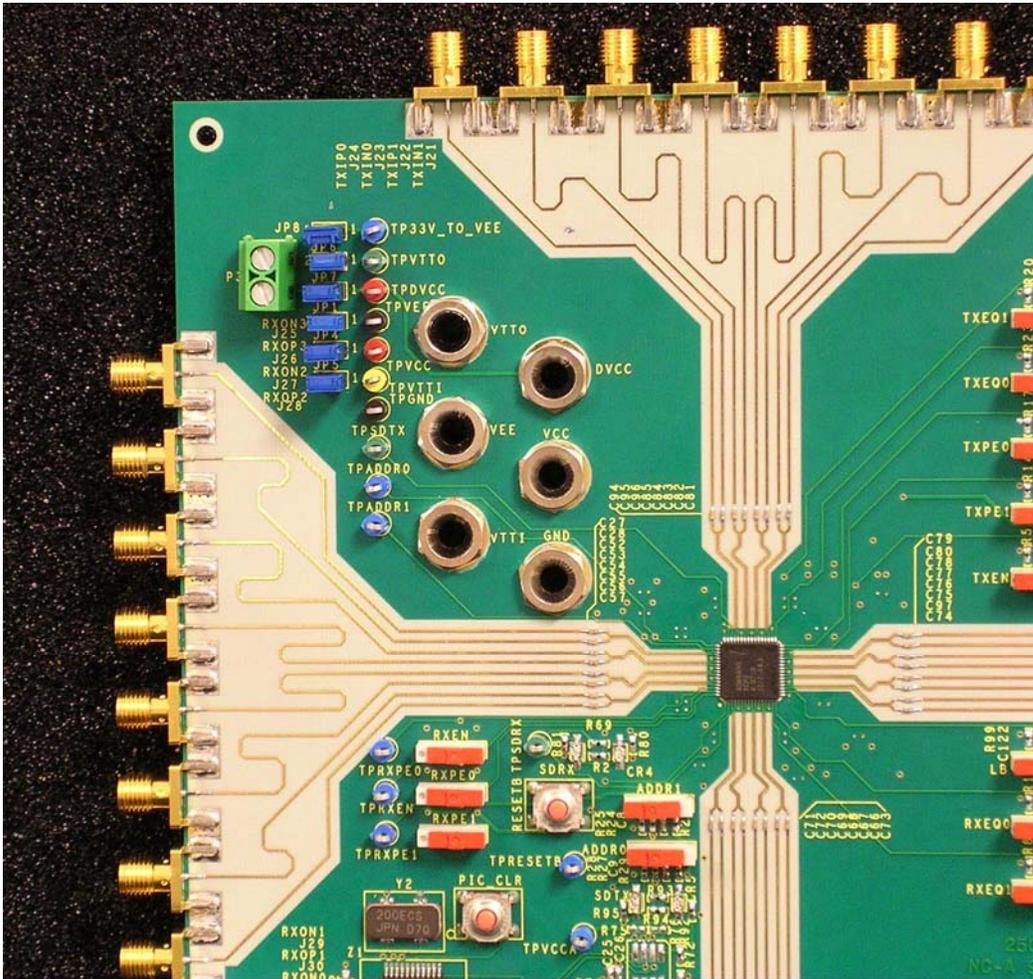

Fig.2 Power supply connections, blue jumpers are used to short all supplies together and short VEE to GND.
1. After installing the software (see section below). Apply a 3.3V power to banana jack "VCC" relative to "VEE". JP4 thru JP8 should be installed. The test points and banana jacks are at the top of the board shown in the Fig.2. All the supply jumpers should be installed as Fig.2